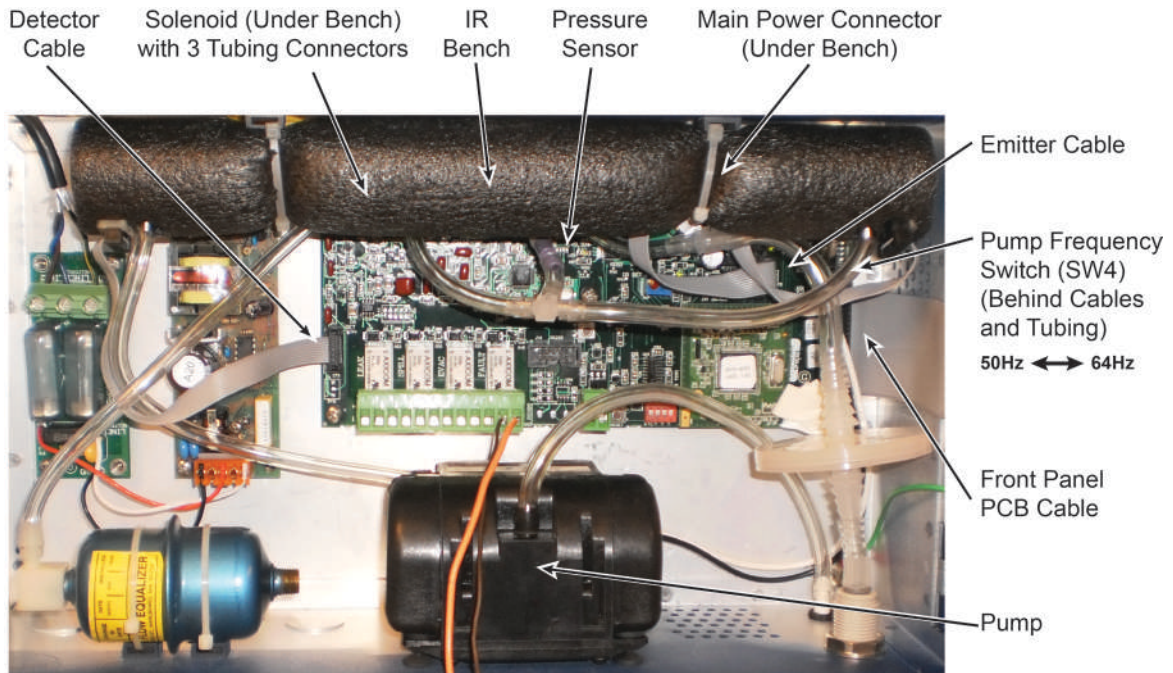

Figure 1. Single Zone Components
3. Take time to familiarize yourself with the internal components displayed on this page. Figure 1 is a diagram of the Single Zone Monitor interior.